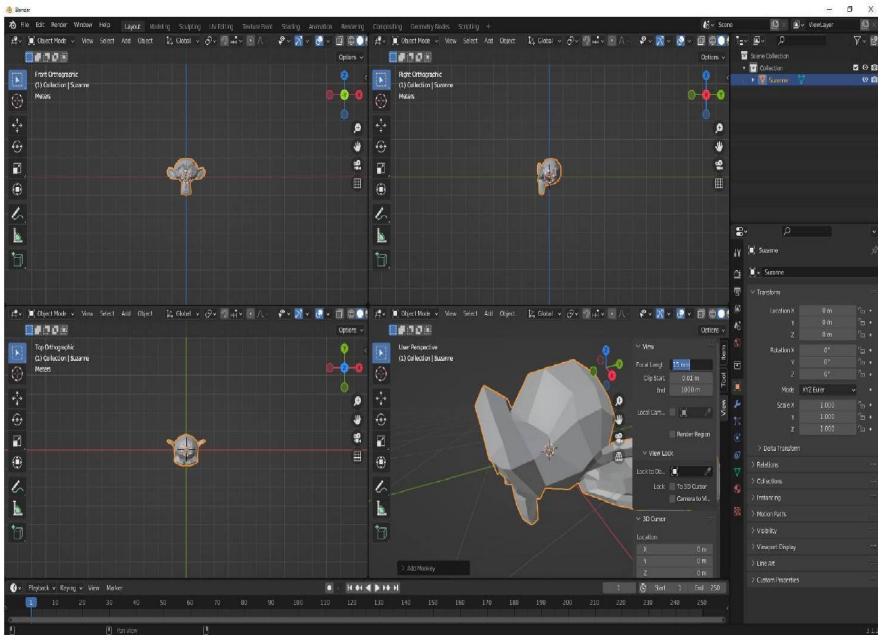

Figure 2.22: Bottom Right 3D Viewport, Suzanne framed in User Perspective view mode, with 15mm Focal Length
2. Next let's frame the still-selected Suzanne in the view by pressing the number pad period key as shown in *Figure 2.22*. Now the distortion of **Perspective view** is on full display.